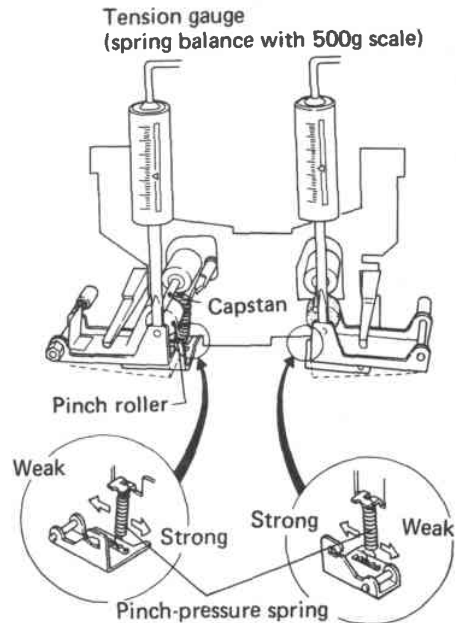

Fig. 8-1 Pinch roller pressure adjustment
2. Using a tension gauge (Stick weighing instrument: approximately 500g full scale), gently drop the pinch arm (Fig. 8-1).